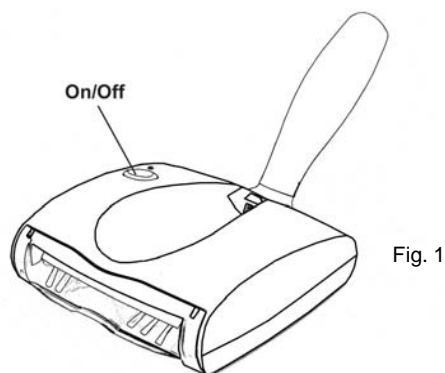

Fig. 1
2. Push the On/Off switch to operate the unit. To turn off, press switch again. (Fig. 1)